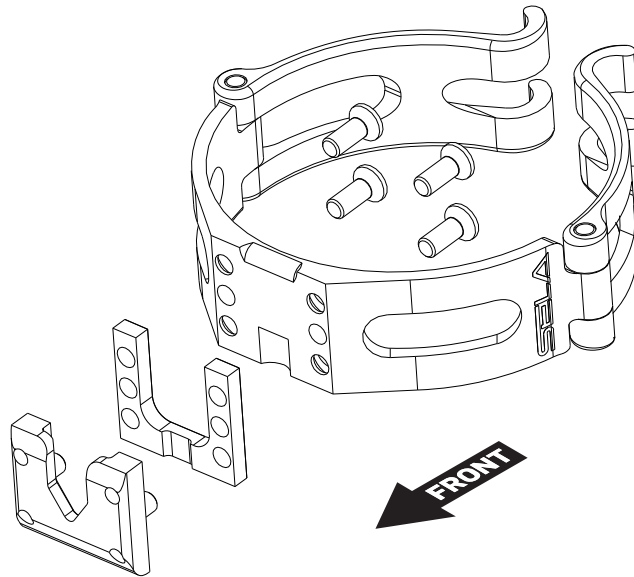

Figure 1: Exploded view of fork ring assembly showing correct part orientation.
20. Mate the receiver/spacer combination to the fork ring. Note the radiused edge on the front side of the fork ring. This edge should point in the same direction as the v-grooved end of the receiver/spacer combination (see **Figure 1** above).